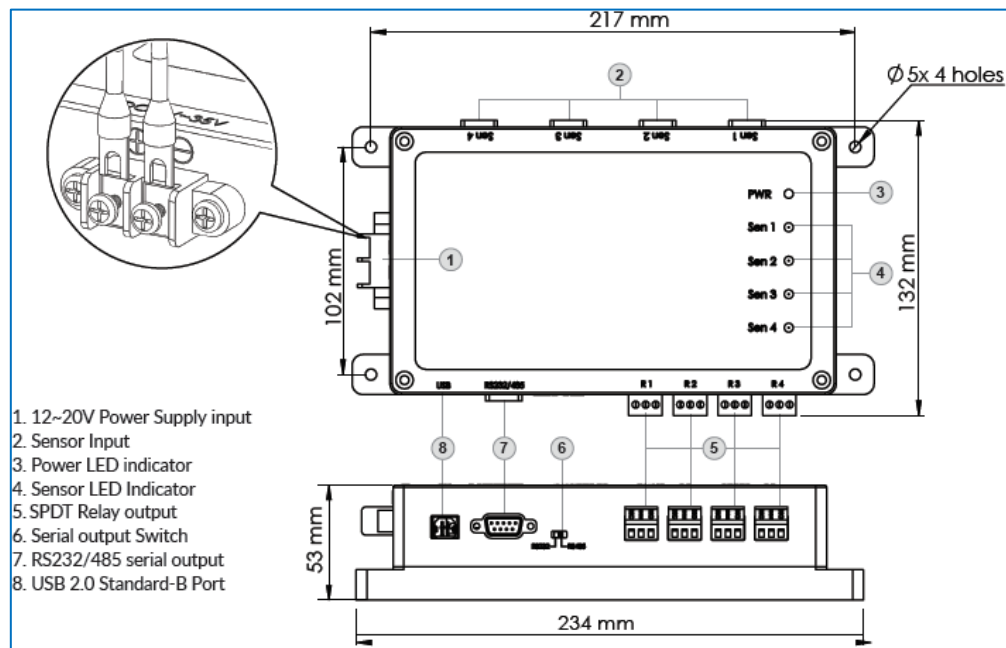

Figure 11. Overview of the Control Box
2. Connect the sensor cord to the sensor input on the DigiPas DWL5000XY/DWL5500XY control box as shown in Figure 11.
- a) Select the Serial output Switch on the control box (refer to Figure 11) to RS232.
- a) Select the Serial output Switch on the control box (refer to Figure 11) to RS485.